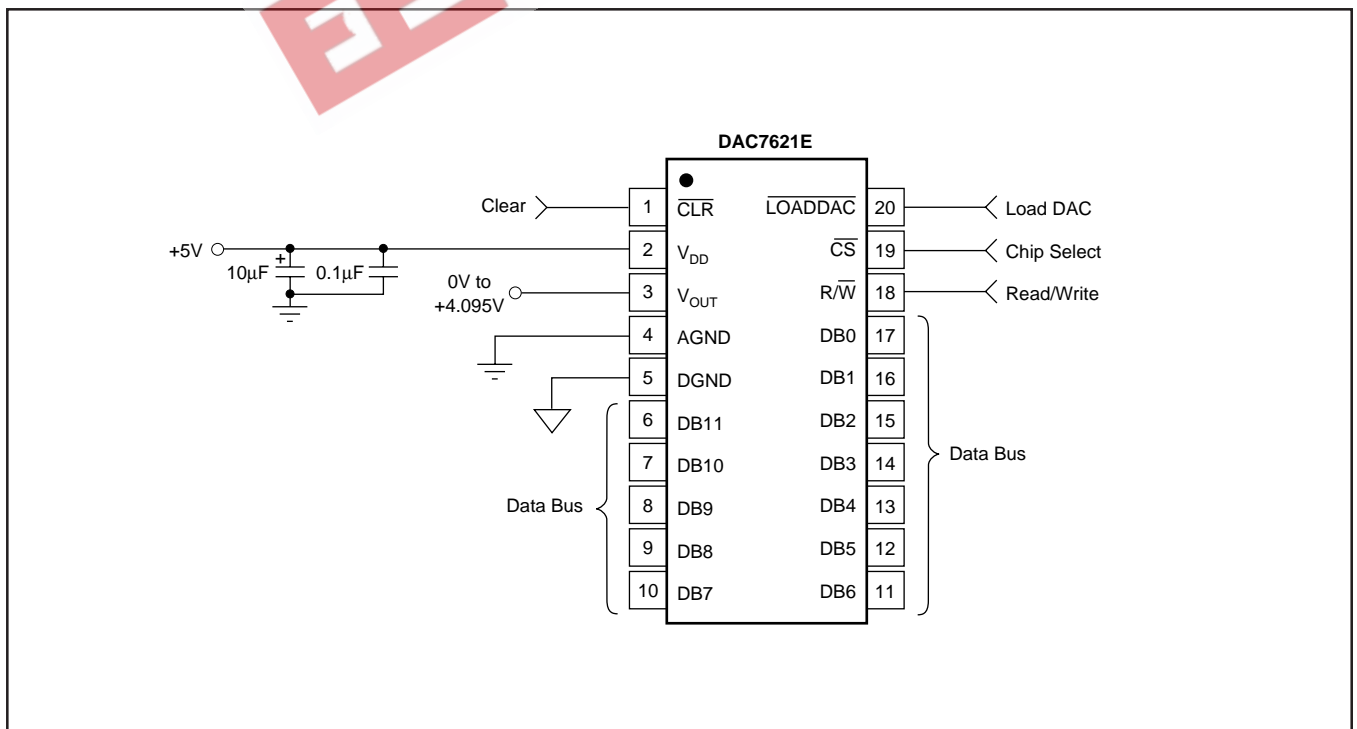

FIGURE 1. Basic Operation of the DAC7621.
The DAC7621 is a 12-bit digital-to-analog converter (DAC) complete with an input shift register, DAC register, laser-trimmed 12-bit DAC, on-board reference, and a rail-to-rail output amplifier. Figure 1 shows the basic operation of the DAC7621.
Figure 1 shows the basic connection between a microcontroller and the DAC7621. The interface consists of a Read/Write (R/W), data, and a load DAC signal (LOADDAC). In addition, a chip select (CS) input is available to enable the DAC7621 when there are multiple devices. The data format is Straight Binary. An asynchronous clear input (CLR) is provided to simplify start-up or periodic resets. Table I shows the relationship between input code and output voltage.
The DAC7621 power supply should be bypassed as shown in Figure 1. The bypass capacitors should be placed as close to the device as possible, with the 0.1 μ F capacitor taking priority in this regard. The "Power Supply Rejection vs Frequency" graph in the Typical Performance Curves section shows the PSRR performance of the DAC7621. This should be taken into account when using switching power supplies or DC/DC converters.